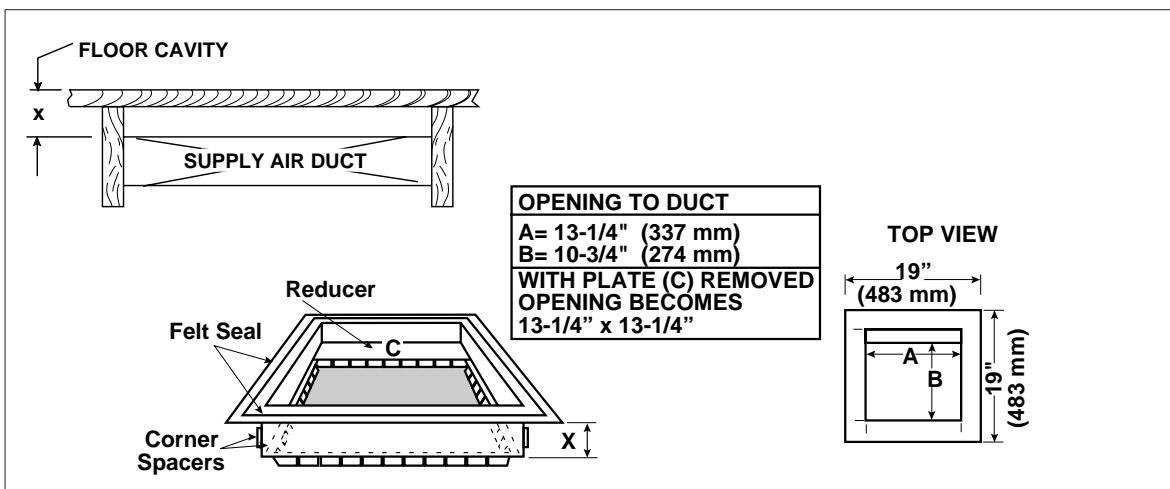

Figure 4. Plenum Connector Selection
1. Determine depth of floor cavity from surface of floor to top of supply air duct (see Figure 4).
2. Select appropriate model from Table 4 which matches X-dimension of floor cavity. To maximize air delivery, remove reducer (C in Figure 4) to obtain largest open area that will fit duct/floor construction.